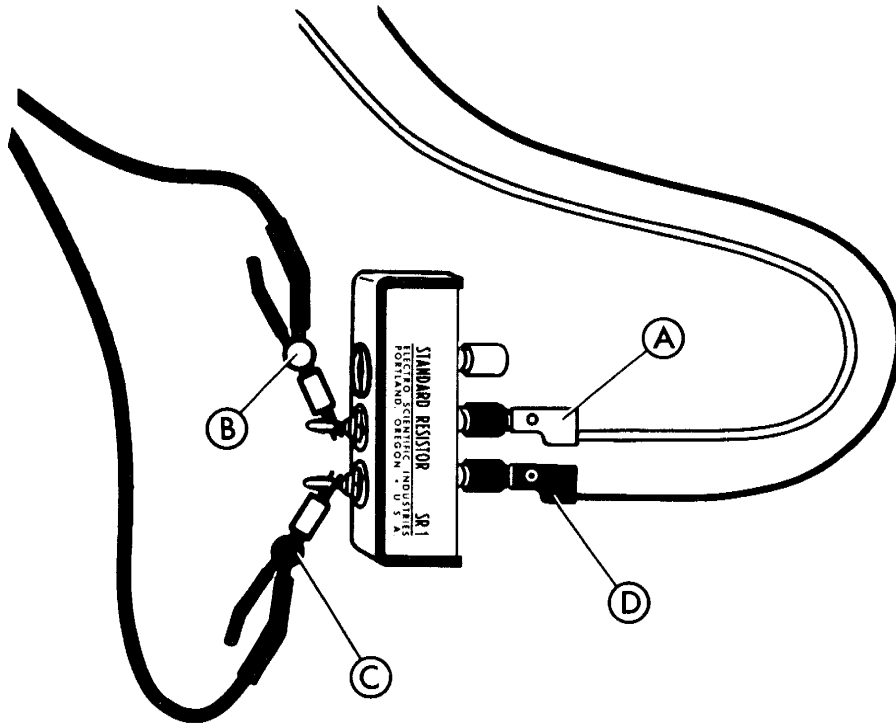

Figure 5-23. Lead Connections to 1 kilohm SR1
23. Make the 242D lead connections to measure the 1 kilohm SR1 standard resistor. Reference Figure 5-23.